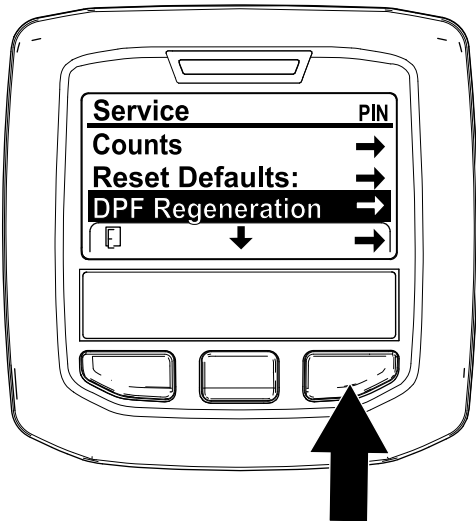

Figure 24
- 1. Access the Service menu, press the center button to scroll down to the DPF REGENERATION option (Figure 24).
- 2. Press the right button to select the DPF Regeneration entry (Figure 24).